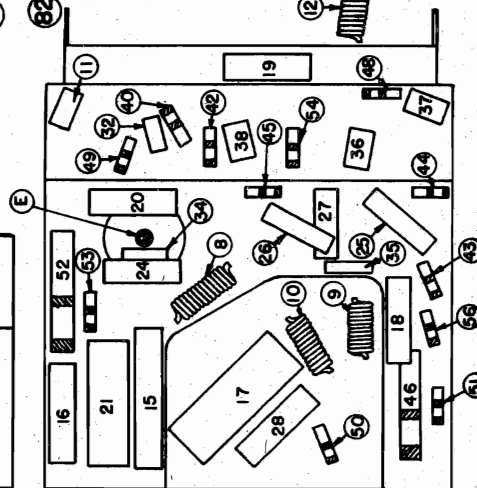
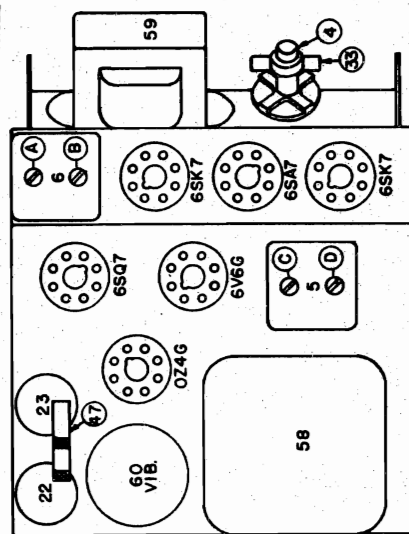

FIG. 4--PARTS LAYOUT--Bottom View
FIG. 3--PARTS LAYOUT--Top View
- Adjust trimmers A-B-C-D through the cutouts on the side of the chassis opposite the antenna and "A" receptacles (Illus. 12 & 13, Figure 4) for maximum output. Repeat with lowest possible output from the signal generator for more accurate alignment.
- Adjust the oscillator parallel trimmer "G" on the center section of the gang condenser carefully for maximum output (Figure 3).
- Adjust the parallel trimmers "F" and "H" (Figure 3) on the condenser gang carefully for maximum output.
- Adjust trimmer "E" (Illus. #11, Figure 4) while rocking the rotor plates of the gang condenser back and forth through the signal until maximum output is obtained.
A Cathode Ray Oscillograph should be used to check the I-F band spread after completing the alignment procedure. Connect the oscillograph from connection "I" (Figure 4) to ground.
- (e) Adjust trimmers A-B-C-D (Fig. 3) and I.F. core adjustment "E", (Fig. 4) in the sequence named, until maximum output is obtained.